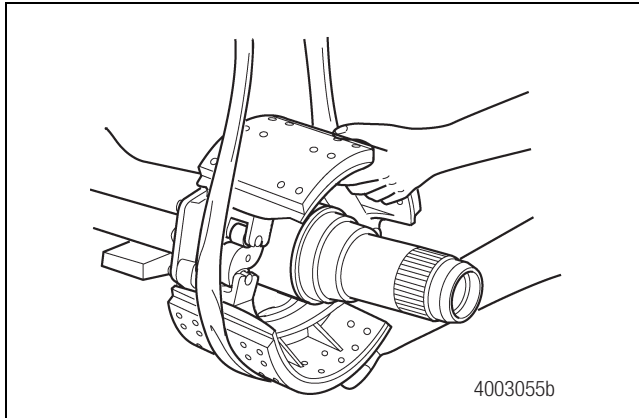

Figure 5.16
4. Carefully rotate and install the complete brake assembly into position. Figure 5.16.